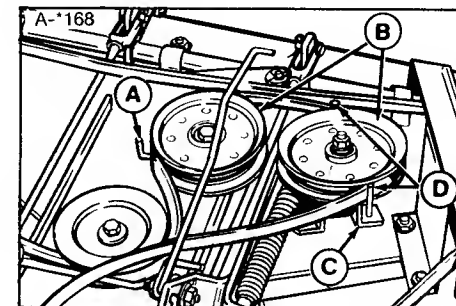

Figure 24. Mower Belt Stops
2. Loosen the left belt stop (D, figure 24) enough to slip the belt off the pulley. Remove the right belt stop (A).